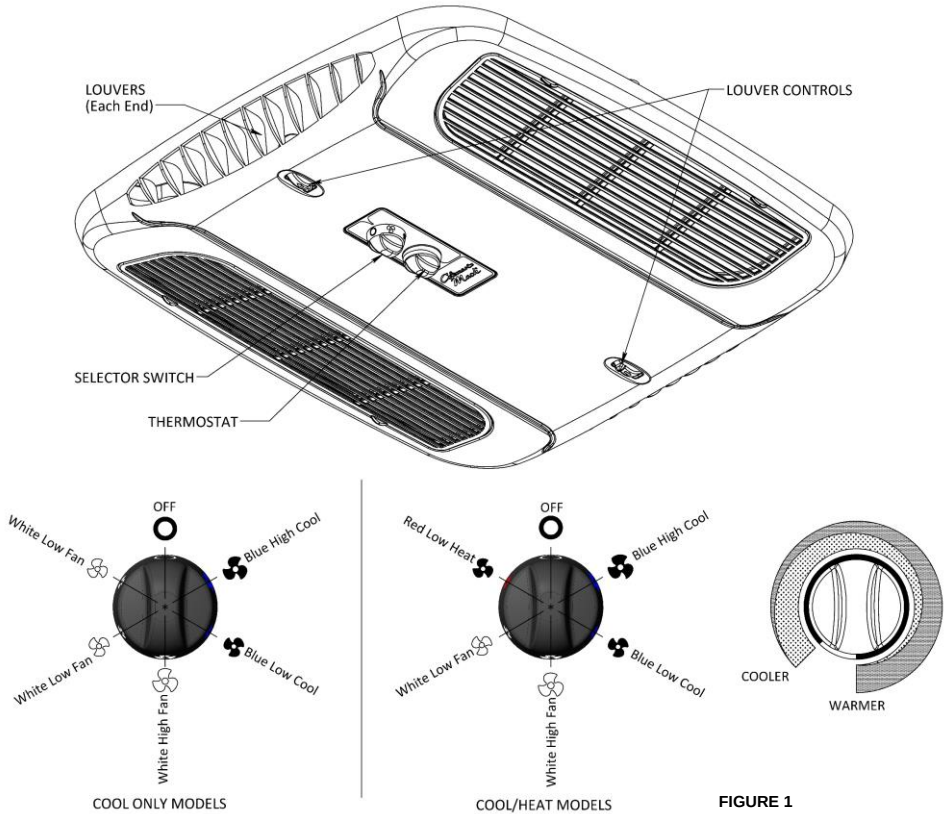

FIGURE 1
A. The Selector Switch – The selector switch determines which mode of operation the air conditioner will be in. By rotating the selector switch, the operator can obtain any system function desired. System functions vary depending upon options of both the roof top unit and ceiling assembly. Figure 1 shows selector switch location and lists all available functions by model.
B. The Thermostat (temperature control) – In the cooling mode, the thermostat regulates the “ON” and “OFF” temperature setting at which the compressor will operate. The For “Heat/Cool” models, the thermostat also controls the “ON” and “OFF” temperature settings of the heater assembly (See Figure 1).
For Cooling (Refer to Figure 1)
(Refer to Figure 1-Cool/Heat, page 10)
(Refer to Figure 1, page 10)